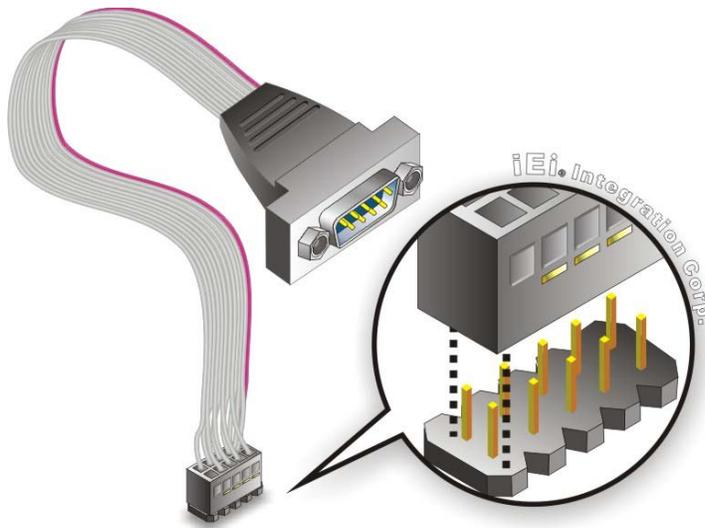

Figure 4-21: Single RS-232 Cable Installation
Step 2: **Insert the cable connector.** Insert the connector into the serial port header. See **Figure 4-21**. A key on the front of the cable connector ensures the connector can only be installed in one direction.